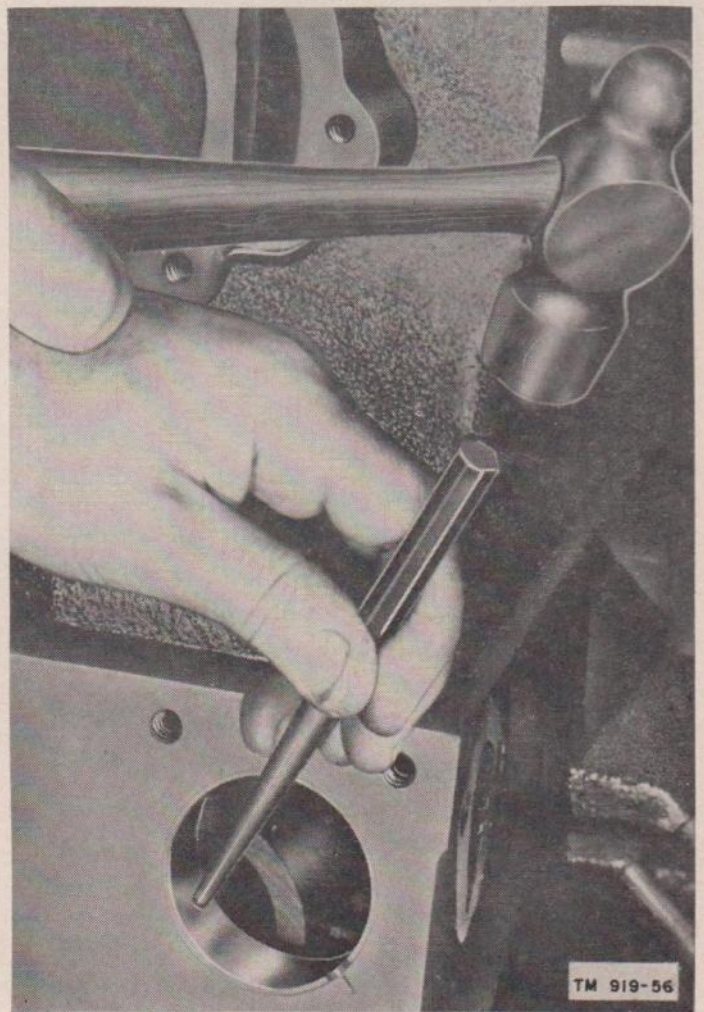

Figure 57. Staking camshaft bearing.
- (1) Press the camshaft bearing (59) into the block and stake it in place as shown in figure 57.
- (2) Install the valve tappets (20) and tie them with string attached to the manifold studs. Check the tappet clearance in the guides as instructed in paragraph 58l(13).
- (3) Install the camshaft (58) in the block and check the bearing clearance as instructed in paragraph 58l(12). Then slip the thrust plate spacer (57) on the camshaft with the beveled inner edge toward the rear and secure the shaft with the thrust plate (56), lock washers, and bolts.